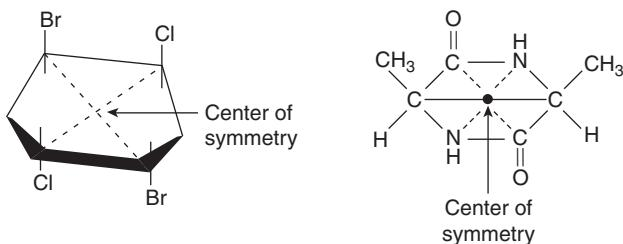

Figure 9 Compounds having center of symmetry.
2. **Center of symmetry:** It is a point in a molecule, such that if a line is drawn from any atom or group to the opposite end through this point, the identical group or atom is found at the opposite end. Some compounds showing center of symmetry are given in Figure 9.